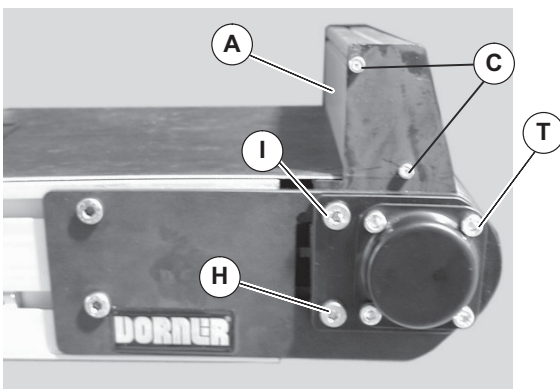

Figure 27
- Place end stop cross piece (Figure 27, item A) on end of conveyor and attach with screws (C) tighten to 50 in-lbs (5.6 N-m).
- Tighten screws (Figure 27, item H and I) to 146 in-lbs (16.5 N-m) and tighten screw (T) on side of conveyor opposite the drive.